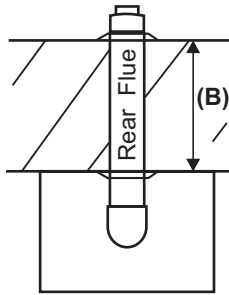

Fig. 4.5
4.6 FIT THE FLUE - Figs. 4.5 and 4.6